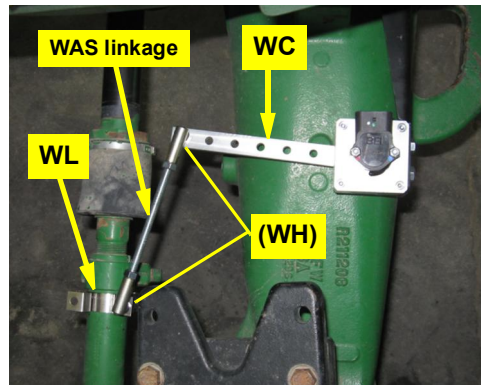

Figure 2d: Installed WAS linkage
- With the swivel studs pointing downwards. Leave the swivel nuts **WH** loose (Figure 2d)